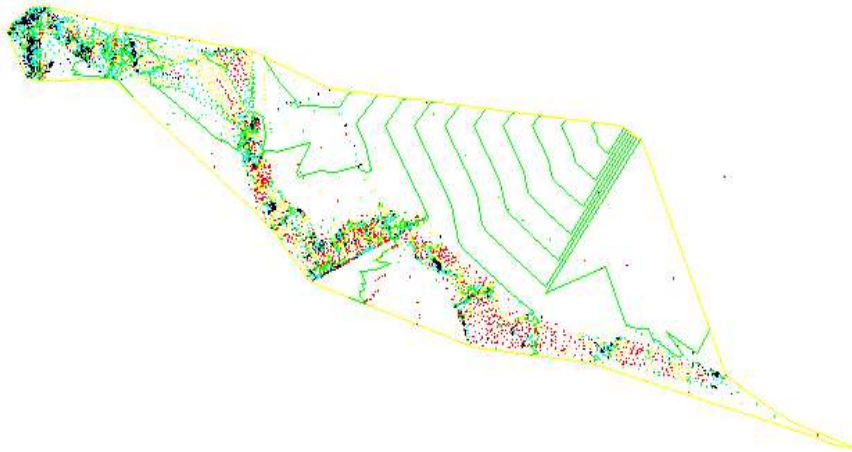

Figure 4-39 The arrows displaying the Slope Arrows analysis
11. Choose the **OK** button; the dialog box is closed and the drawing now displays the result of the Slope Arrows analysis. The result is displayed using different colored arrows that correspond to different slope ranges, as shown in Figure 4-39.